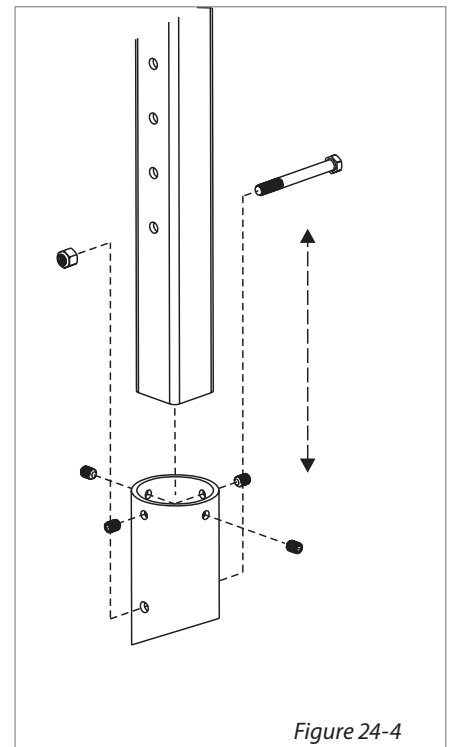

Figure 24-4
- Tighten set screws (x4) [Figure 24-4]